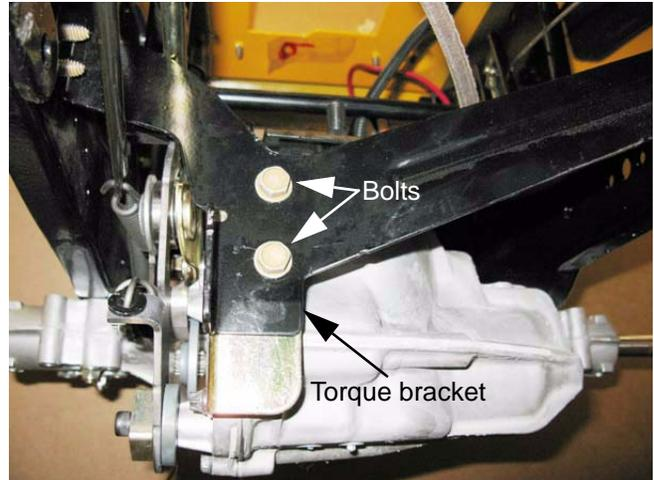

Figure 5.78
14. Remove the torque bracket bolts using a 1/2" wrench. See Figure 5.78.